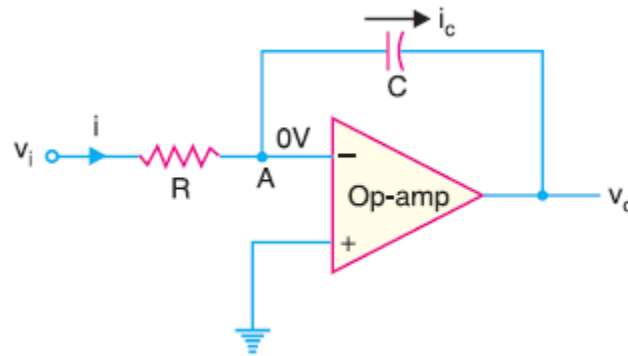

Fig. 8
An *integrator* is a circuit that performs integration of the input signal. The most popular application of an integrator is to produce a ramp output voltage (i.e. a linearly increasing or decreasing voltage). Fig. 8 shows the circuit of an Op-Amp integrator. It consists of an Op-Amp, input resistor  $R_i$  and feedback capacitor  $C_f$ . We note that the feedback component is a capacitor instead of a
**Circuit Analysis.** Since point A in Fig. 8 is at virtual ground and the Op-Amp has an infinite input impedance, all of the input current  $i$  flows through the capacitor i.e.  $i = i_C = \frac{v_{in}-0}{R_i} = \frac{v_{in}}{R_i}$ . Now voltage across the capacitor  $v_C = 0 - v_{out} = -v_{out}$ . So,  $i_C = C_f \frac{dv_C}{dt}$  or  $\frac{v_{in}}{R_i} = -C_f \frac{dv_{out}}{dt}$ . So, we get  $\frac{dv_{out}}{dt} = -\frac{1}{R_i C_f} v_{in}$ .